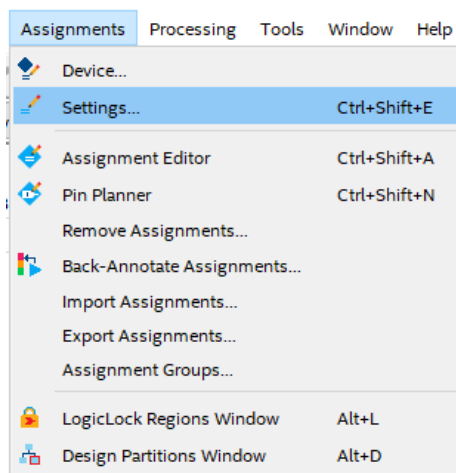

Figure 42 : Settings Menu in Quartus Prime
1. After you have finished creating HPS on QSYS, and TOP File of your design. Open Quartus Prime. Go to Assignment -> Settings as shown in the Figure 42.